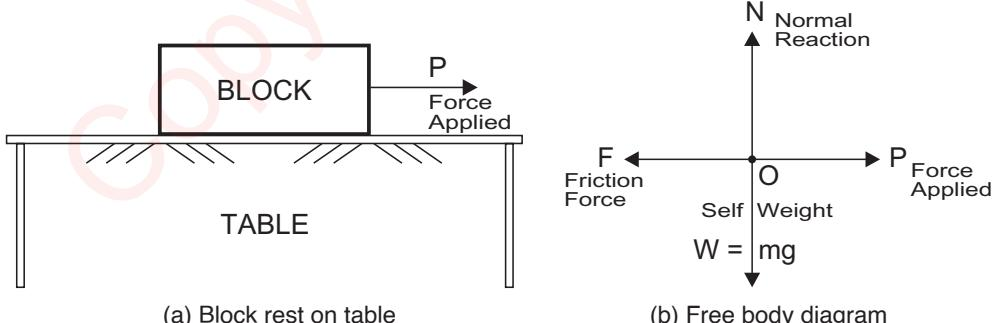

Fig. 3.1: Friction
Consider a block of weight W resting on a table. An external horizontal variable force P is applied on the block as shown in fig. 3.1(a). The block is in equilibrium and therefore, $\Sigma V = 0$ and the weight W of the block is resisted by normal reaction N offered by the top of table. $\therefore N = W$.
Now, try to move this block on the top of the table maintain contact surface of the block and top of the table. The rough surface of the table top will offer internal resistance to the motion. This resistance to the motion, which always opposes motion, is force of friction or simply friction, denoted by F in a free body diagram as shown in fig. 3.1(b). As per the condition of equilibrium $\Sigma H = 0$, this frictional force F should be equal to the applied external force P , when block just to get motion. $\therefore F = P$.
3.2.1 Equilibrium of a body on a horizontal plane with horizontal external force (Fig. 3.1)